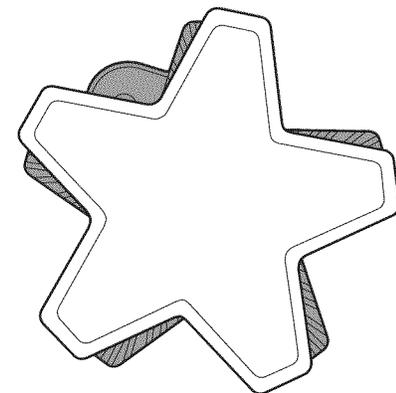

Figure 17: Incorrect Burner Cap Placement
- Check each burner to make sure there is no gap between the burner cap and burner base. See *Figure 16* and *Figure 17: Correct and Incorrect Burner Cap Placement* to see examples of correct and incorrect placements of the burner cap.